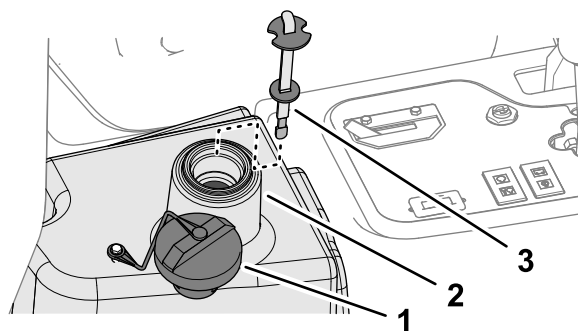

Figure 93
4. Fill the reservoir (Figure 93) with approximately 22.7 L (6 US gallons) of hydraulic fluid; refer to Hydraulic Fluid Specifications (page 59).